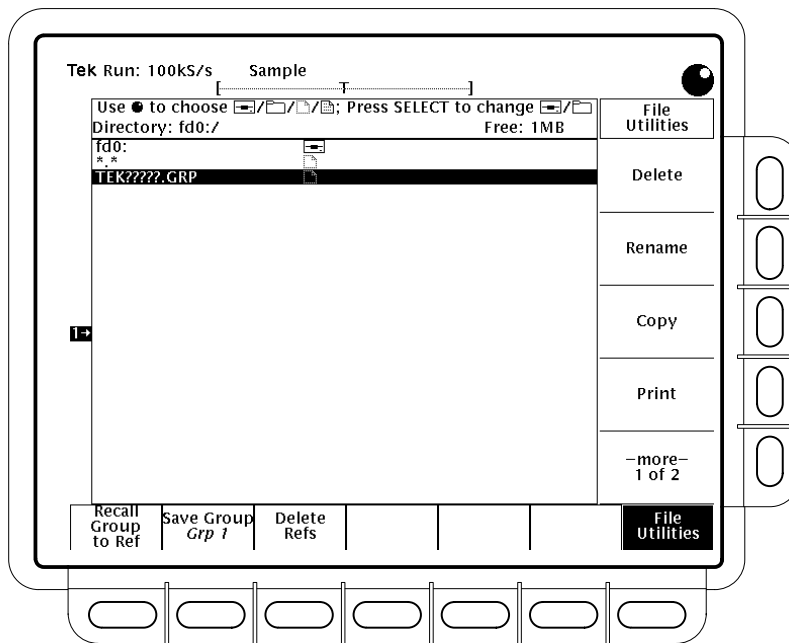

Figure 3-29: File Utilities Menu and Listing
*FILENAME.GRP* contains a saved waveform reference group. (See Figure 3-29.)
2. Press **File Utilities** (main) to bring up the **File Utilities** side menu. (See Figure 3-29.)